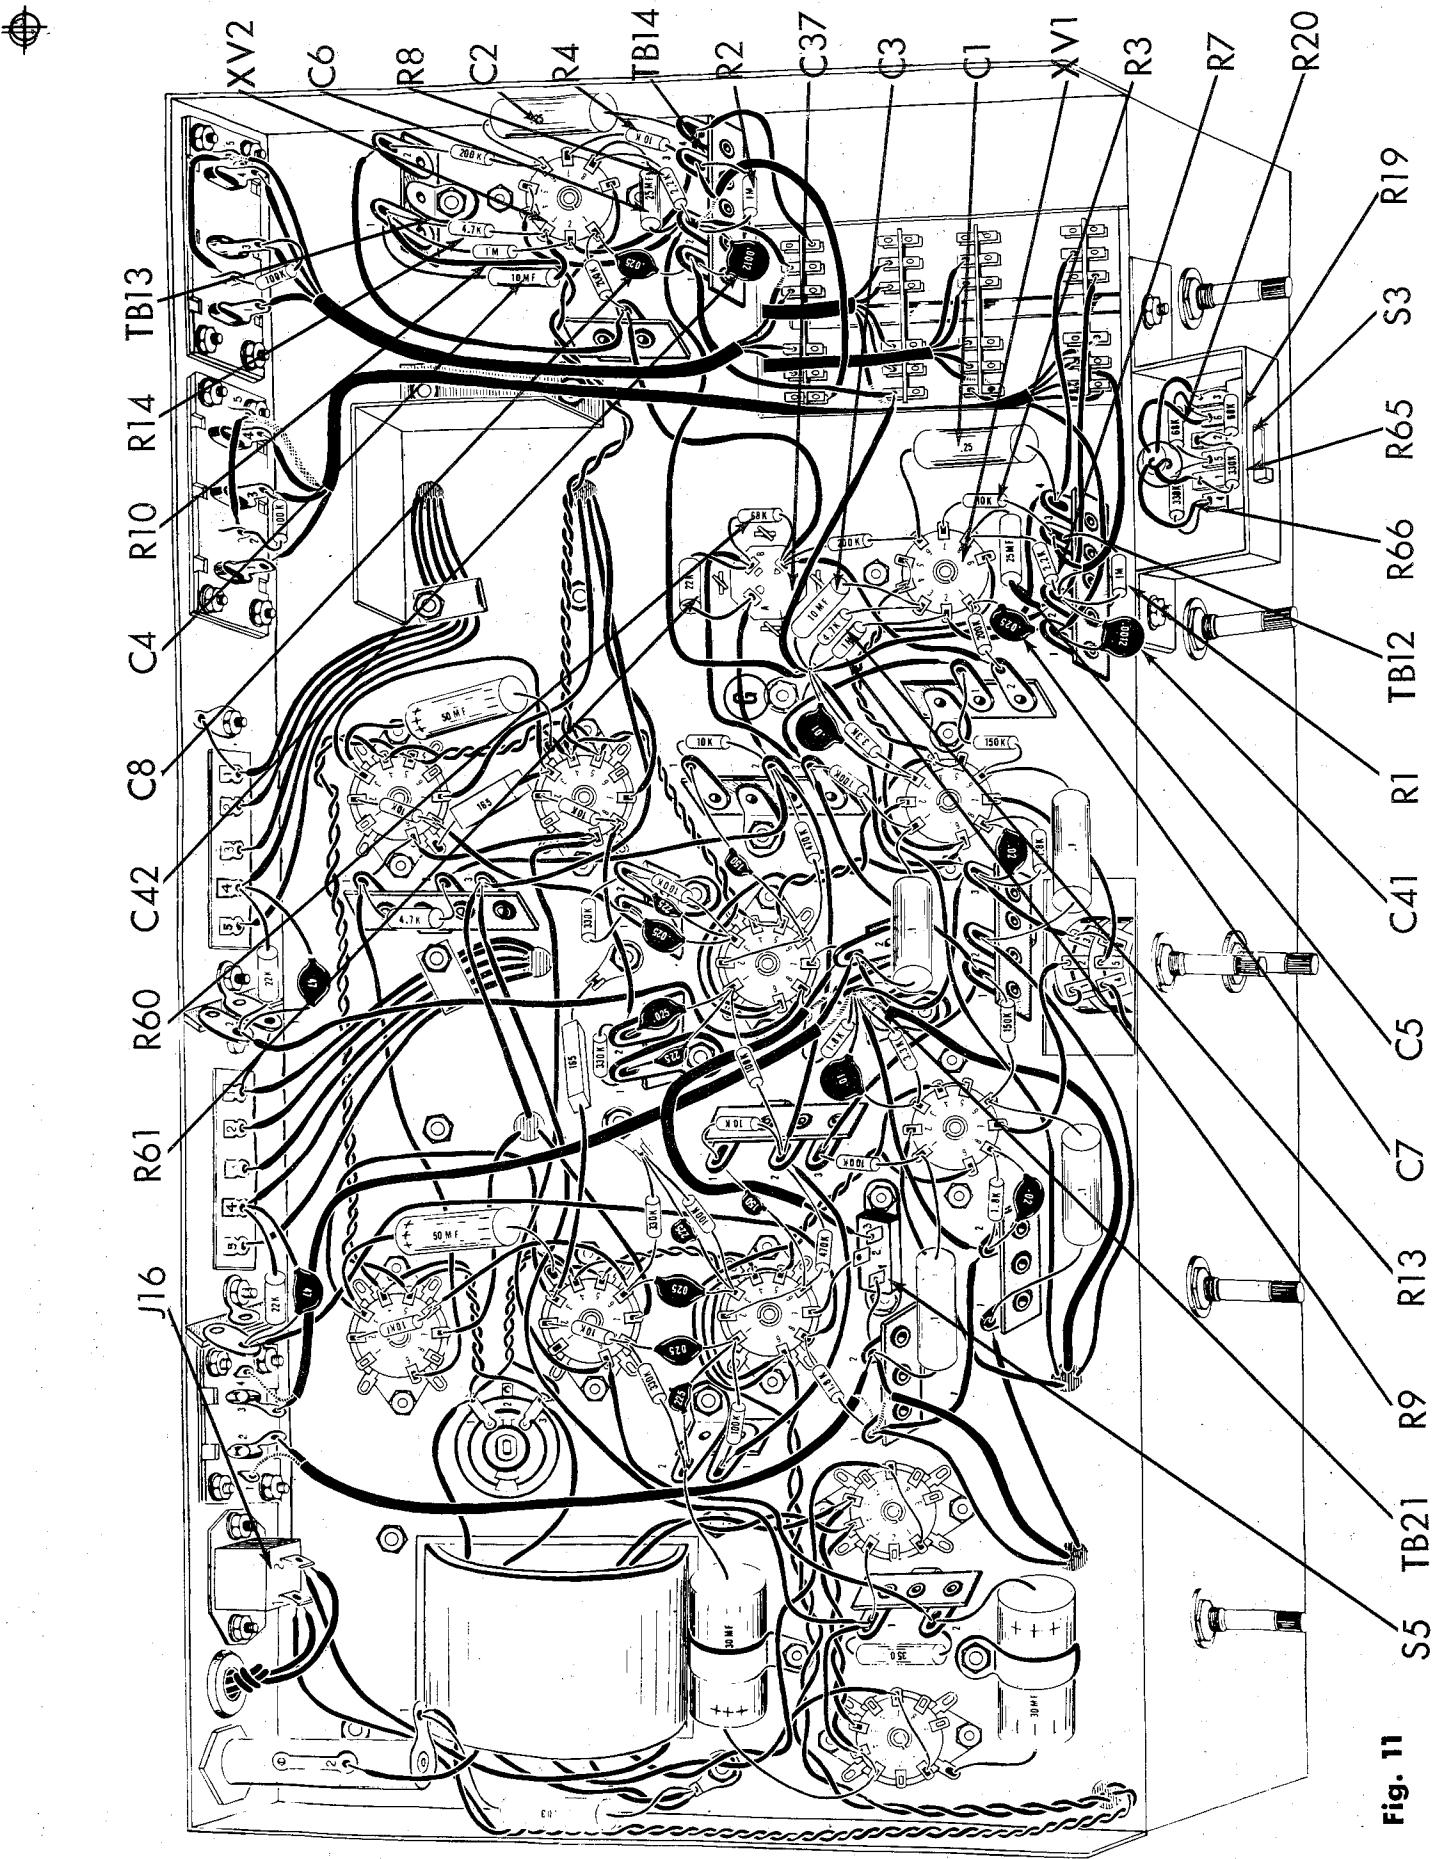

Fig. 11
1. () Fig. 11. Cut all leads on two 25 mfd electrolytic capacitors, C5 and C6, to 1" and cover each with a 3/4" piece of spaghetti. Connect the positive (+) end of C5 to XV1-8 (C) and the negative (-) end to TB14-2(C). Connect the positive (+) end of C6 to XV2-8(C) and the negative (-) end to TB14-2(C).
2. () Fig. 11. Cut all leads on two 2.2K Ω (red, red, red, silver) resistors, R7 and R8, to 3/4" and cover each lead with a 1/2" piece of spaghetti. Connect R7 from XV1-8 (S2) to TB12-2 (C). Connect R8 from XV2-8 (S2) to TB14-2 (C).
3. () Fig. 11. Cut the ground end (if the capacitor is so marked with a line) of two .25 mfd paper capacitors, C1 and C2, to 1". (If it is not marked, cut either end to 1".) Connect this end of C1 to XV1-6 (S2) and this end of C2 to XV2-6 (S2). Cut the other end of both capacitors to 3/4". Connect this end of C1 to TB12-4 (S3) and this end of C2 to TB14-4 (S3).
4. () Fig. 11. On two 10K Ω (brown, black, orange, silver) resistors, R3 and R4, cut one lead to 1/2" and the other lead to 3/4". Connect the 1/2" lead of R3 to XV1-7 (S1) and the 3/4" lead to TB12-3 (C). Connect the 1/2" lead of R4 to XV2-7 (S1) and the 3/4" lead to TB14-3 (C).
5. () Fig. 11. Cut both leads on two 1M Ω (brown, black, green, silver) resistors, R1 and R2, to 1/2". Connect R1 from TB12-3 (S3) to TB14-2 (C). Connect R2 from TB14-3 (S3) to TB14-2 (C).
6. () Fig. 11. Cut all leads on two .0012 mfd (1.2K or 1200 mmf) disc capacitors, C41 and C42 to 1/2". Connect C41 from TB12-1 (C) to TB12-2 (S7). Connect C42 from TB14-1 (C) to TB14-2 (S8).
7. () Fig. 11. Cut all leads on two .025 mfd (25K or 25,000 mmf) disc capacitors, C7 and C8, to 3/4". Connect C7 from XV1-1 (S2) to TB12-1 (S3). Connect C8 from XV2-1 (S2) to TB14-1 (C).
8. () Fig. 11. Cut all leads on two 10 mfd, 6 volt electrolytic capacitors, C3 and C4, to 3/4". Cover each lead with a 1/2" piece of spaghetti. Connect the positive (+) end of C3 to XV1-3 (C) and the negative (-) end to ground lug "G" (C). Connect the positive (+) end of C4 to XV2-3 (C) and the negative (-) lead to TB13-1 (C).
9. () Fig. 11. Cut both leads on one 4.7K Ω (yellow, violet, red, silver) resistor, R14 to 1/2" and both leads on a second 4.7K Ω resistor, R13, to 3/4". Connect R14, (with the shorter leads) from XV2-3 (S2) to TB13-1 (C). Connect R13 (with the longer leads) from XV1-3 (S2) to ground lug "G" (C).
10. () Fig. 11. Cut all leads on two 1M Ω (brown, black, green, silver) resistors, R9 and R10, to 3/4". Cover both leads with a 1/2" piece of spaghetti. Connect R9 from XV1-2 (S2) to ground lug "G" (C).. Connect R10 from XV2-2 (S2) to TB13-1 (S4).
11. () Fig. 11. Cut both leads on a 22K Ω (red, red, orange, silver) 1 watt resistor, R61 to 3/4". Connect from C37-A (S2) to C37-B (C).
12. () Fig. 11. Cut both leads on a 68K Ω (blue, grey, orange, silver) resistor, R60, to 1/2". Connect from C37B (S3) to C37C (S4).
13. () Fig. 11. Cut all leads on two 68K Ω (blue, grey, orange, silver) resistor, R19 and R20 to 1/2". Connect R19 from S3-2 (C) to S3-3 (C). Connect R20 from S3-5 (C) to S3-6 (C).
14. () Fig. 11. Cut all leads on two 330K Ω (orange, orange, yellow, silver) resistors, R65 and R66 to 1/2". Connect R65 from S3-2 (S2) to S3-1 (C). Connect R66 from S3-5 (S2) to S3-4 (C).
15. () Fig. 11. From hole "S" connect the white lead to S3-6 (S2), the brown lead to S3-4 (S2), the blue lead to S3-3 (S2) and the green lead to S3-1 (S2).
17. () Fig. 11. Connect the brown lead from S1F-8 to TB14-1 (S3).
18. () Fig. 11. Connect the black lead from S1F-6 to ground lug "G" (S9).
19. () Fig. 11. Connect a 1" piece of bare wire from S5-2 (S1) to XW5-7 (S1).
20. () Fig. 11. Strip back the outer insulation on both ends of a 5" piece of single-conductor cable 1/2". Twist the shield strands. Strip back the insulation on the inner conductor on both ends 1/4". On one end, cut the shield strands and connect the inner conductor to S5-3 (S1). On the other end, connect the twisted shield strands to TB21-1 (S8) and the inner conductor on the same end to TB21-2 (S5).
21. () Fig. 11. Mount the top shield as shown in insert on figure 4. Use two #6 lockwashers and two #6-32 hex nuts.